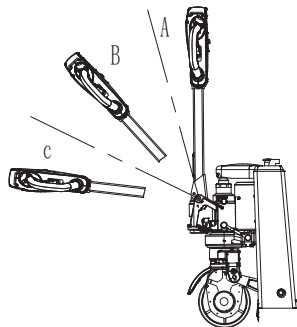

Figure 5
- Turn the handle to A or C quickly for emergency braking(Figure 5), the brake will lock the wheel to achieve an emergency braking.